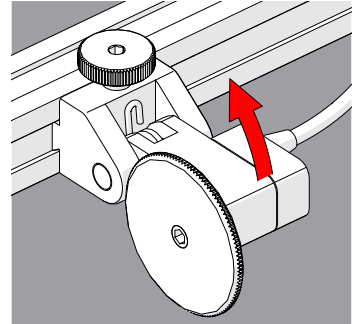

Fig. 44 - Place on scan surface
3. Spring tension maintains encoder contact with the scan surface (Fig. 44).